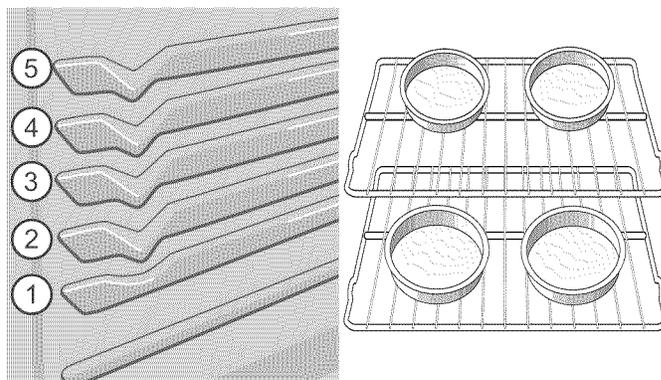

Figure 10: Rack positions and pan spacing recommendations
- For best results when baking cakes using 2 oven racks, place racks in positions 2 and 4 (Figure 10).
- When baking using 2 oven racks, position bakeware as shown in Figure 10. Allow at least 2 inches (5 cm) of space between bakeware for proper air circulation.